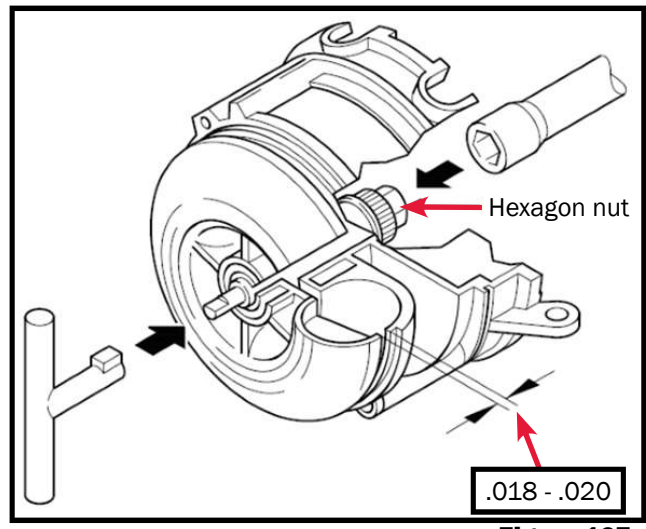

Figure 127a
- Place a feeler gauge between the combustion air blower and the flat surface of the blower casing. Slowly tighten (or loosen) the retaining nut, holding the combustion air blower, until a .018 - .020 gap is achieved. Remove feeler gauge. Reference Figure 127a.